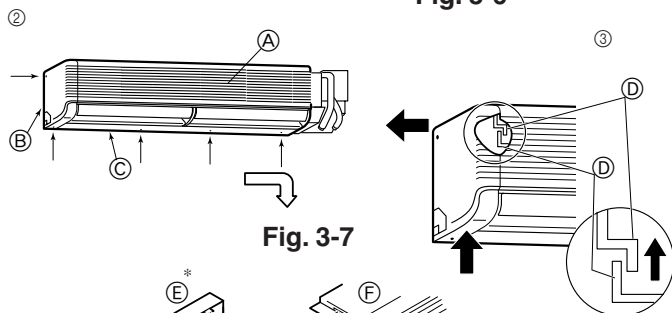
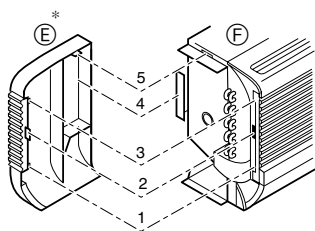

Fig. 3-7
Fig. 3-8
- D Wall-fixing bracket ①
- ② Remove the five screws indicated by the arrows in the diagram. (Fig. 3-7)
- ③ Remove the left side panel, then the lower panel.
* Structure of the side panel and the unit body (Fig. 3-8)